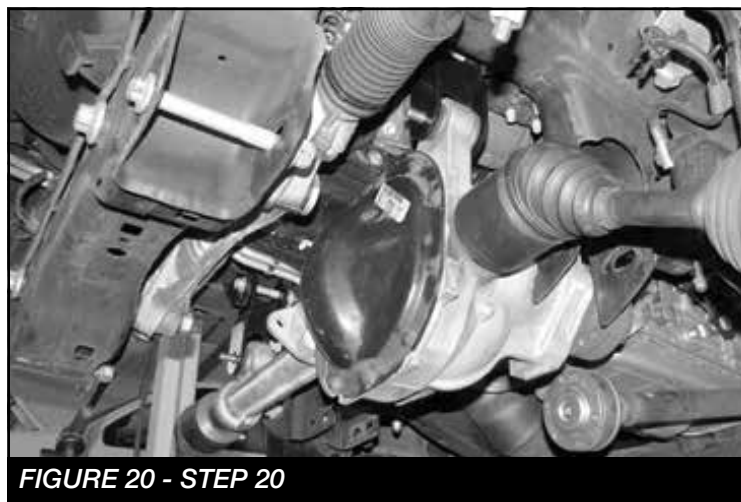

FIGURE 20 - STEP 20
20. Locate the factory front differential and install into the Fabtech upper differential mounts using two 1/2"-13 x 4" hex cap bolts, washers and lock nuts. Leave all hardware loose in preparation of the installation of the remaining differential mounts. **SEE FIGURE 20**